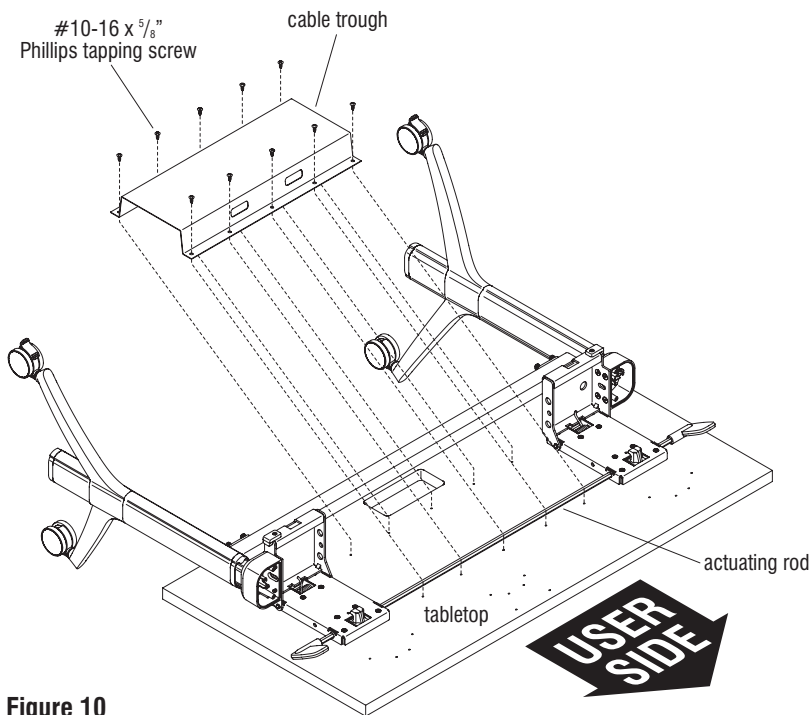

Figure 10
22. Position the cable trough over the tabletop's actuating rod as illustrated, with the two smaller rectangular openings in the trough facing the user side of the table. Align the cable trough mounting holes with the pre-drilled holes in the underside of the tabletop, and secure using ten #10-16 x 5/8" Phillips tapping screws. Do not over-tighten (Figure 10).